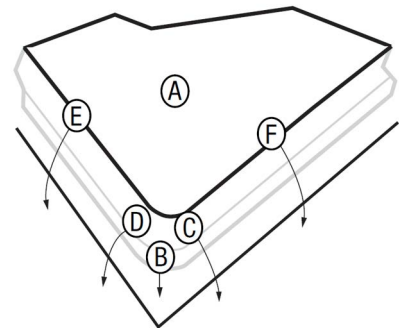

Figure 14. Apply the Product on the Corner
3. Apply the Product to the flat surface before conforming the corners and then along the straight edges in this sequence: A, then B, C and D, then E and F, etc. See Figure 14.